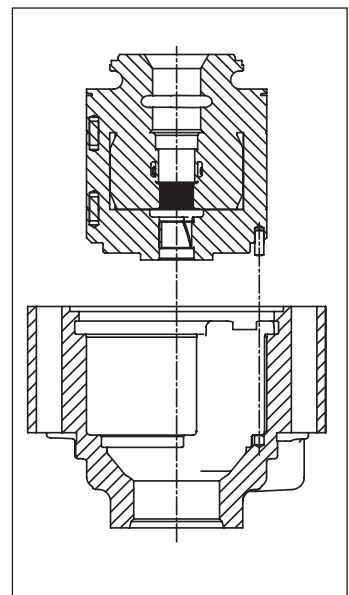

Figure 45
WARNING: If you want to reassemble a new cartridge (**Fig. 45**).
6. Fit the cartridge into the housing (**Fig. 45**).